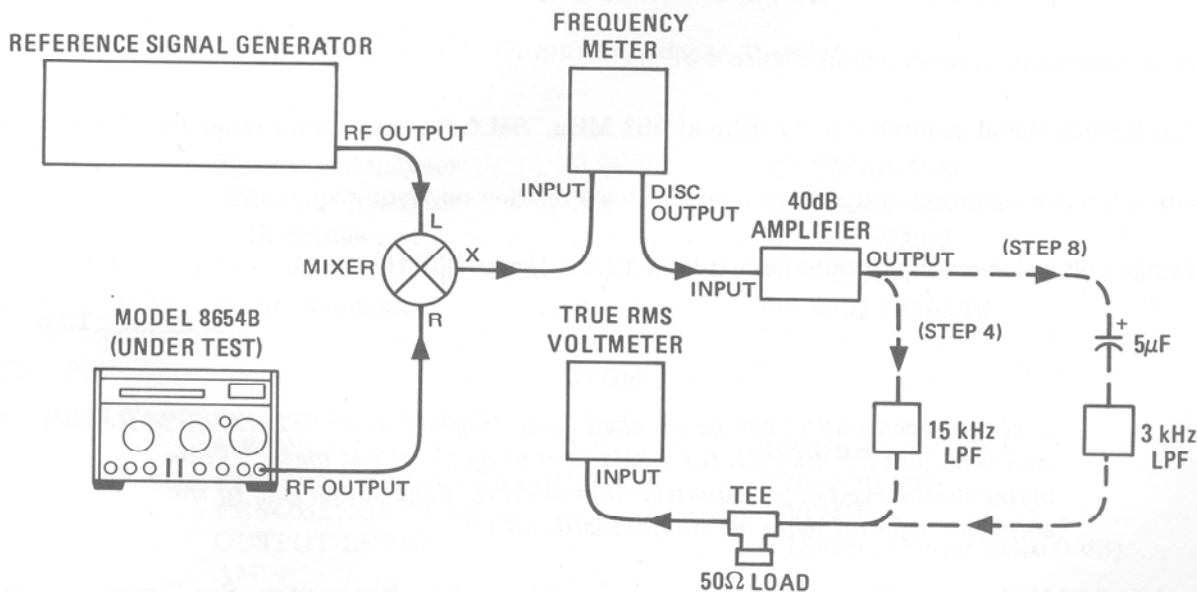

Figure 4-3. Residual FM Test Setup
4. Connect equipment as shown in Figure 4-3.
8. Replace 15 kHz low-pass filter with 3 kHz low-pass filter and 5  $\mu$ F capacitor. See Figure 4-3. Average voltmeter reading should be less than 7.5 mVrms (150 Hz—rms).